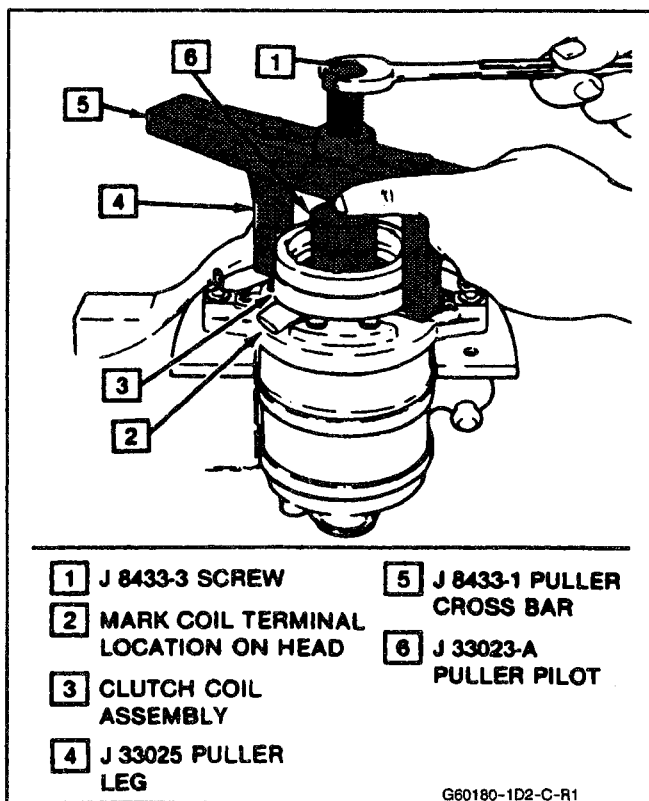

Fig. 14 Clutch Coil Assembly Removal
2. Install J 33023-A puller pilot on front head of compressor (Fig. 14). Also install J 8433-1 puller crossbar with J 33025 puller legs as shown in Figure 14.